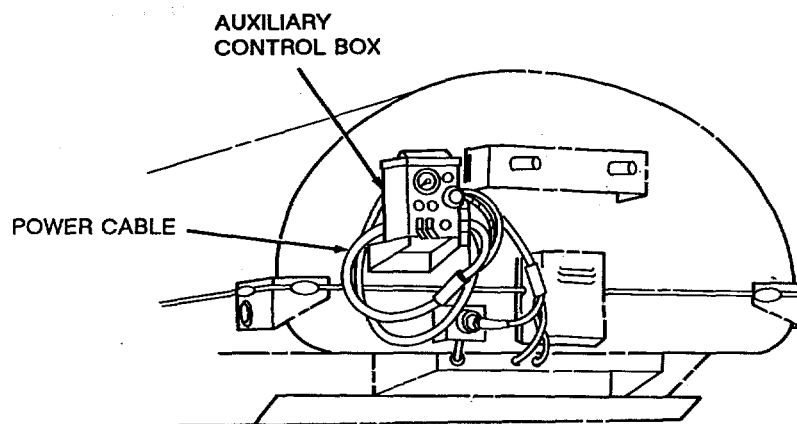

Figure 4-9. Auxiliary Control Box Installed.
- a. Unpack auxiliary control box and check for damage (see Figure 4-9).